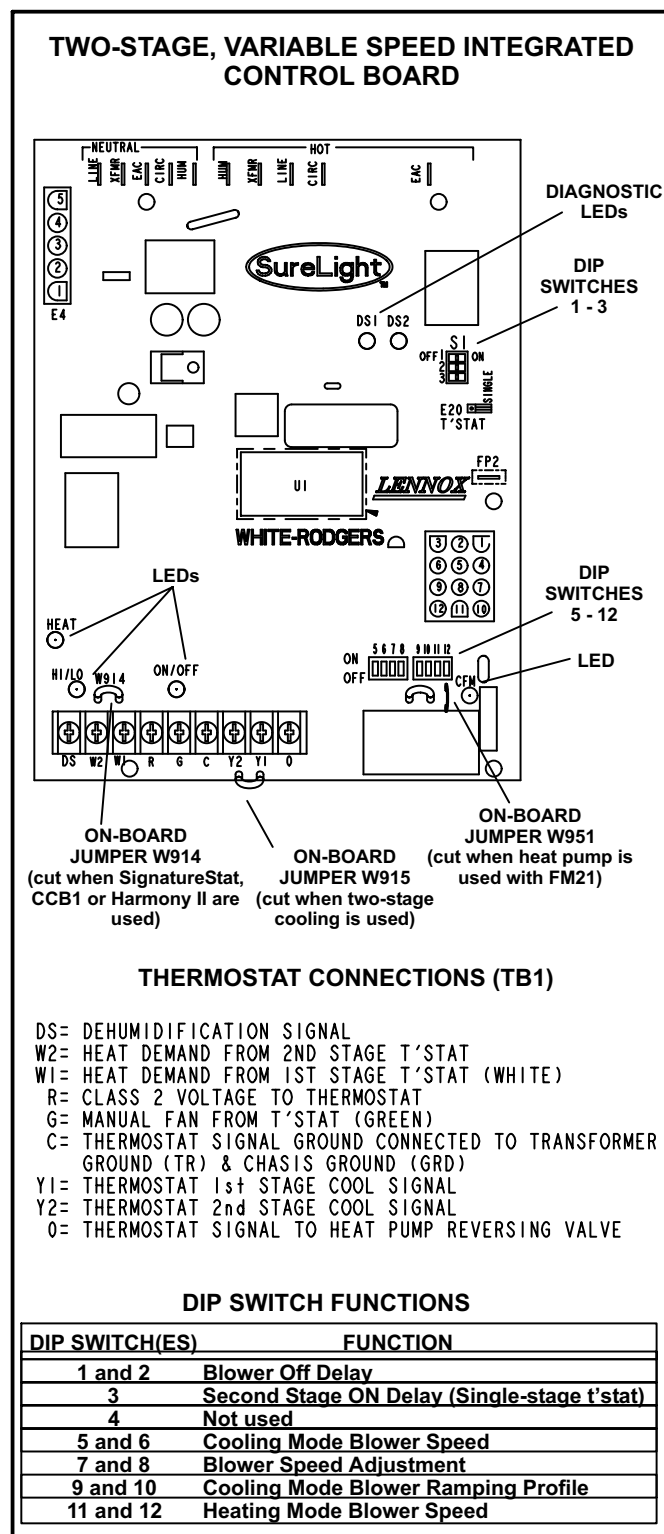

FIGURE 4
G61MPV units are equipped with the Lennox two-stage, variable speed integrated SureLight® control. The system consists of a ignition / blower control (figure 4 with control terminal designations in tables 1 through 4) and ignitor (figure 11). The control and ignitor work in combination to ensure furnace ignition and ignitor durability. The SureLight integrated board controls all major furnace operations. The control features two LED lights, (DS1 and DS2) for troubleshooting and four LED lights (DS3, DS6, DS7 and DS8) to show furnace status. The control also has two accessory terminals rated at (1) one amp each. See table 5 for status code and table 6 for troubleshooting diagnostic codes.
The control can be utilized in two modes: SINGLE-STAGE thermostat or TWO-STAGE thermostat. The thermostat selection jumper E20, located just below dip switches 1 through 3 (figure 4), must be positioned for the particular application. The jumper is factory set on "TWO" for use with a two-stage thermostat with two stage heat. Re-position jumper to "SINGLE" for use with a single stage thermostat with two stage heat.
Diagnostic LEDs are labeled DS1 and DS2. See figure 4 for location of diagnostic LEDs.